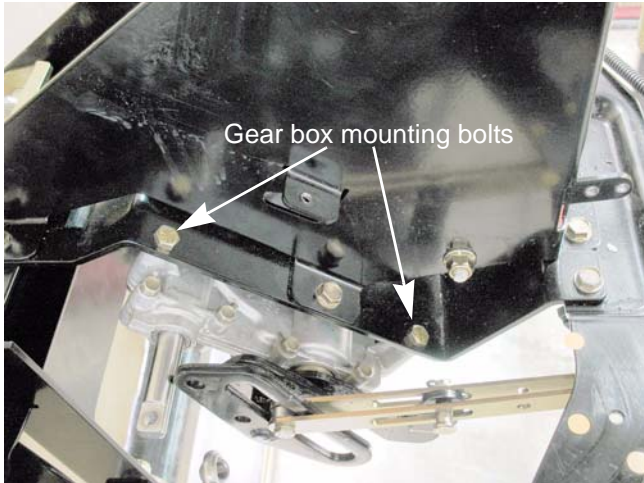

Figure 6.15
11. Remove the four nuts and bolts (two on each side) that hold the gearbox to the frame using a pair of 1/2" wrenches. See Figure 6.15.